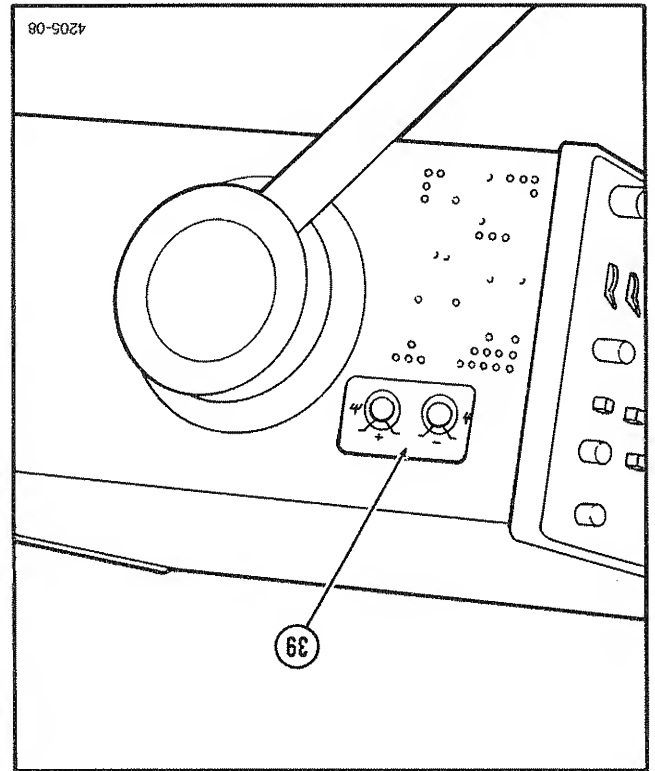

Fig. 2-8. Multimeter right side panel connectors.
Refer to Figure 2-8 for location of item 39.